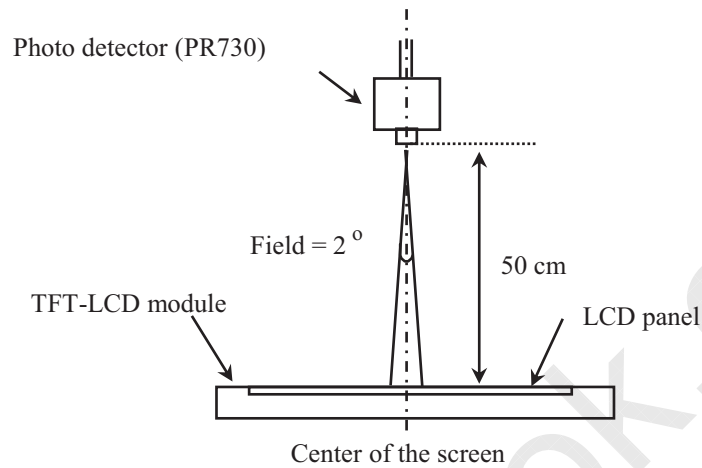
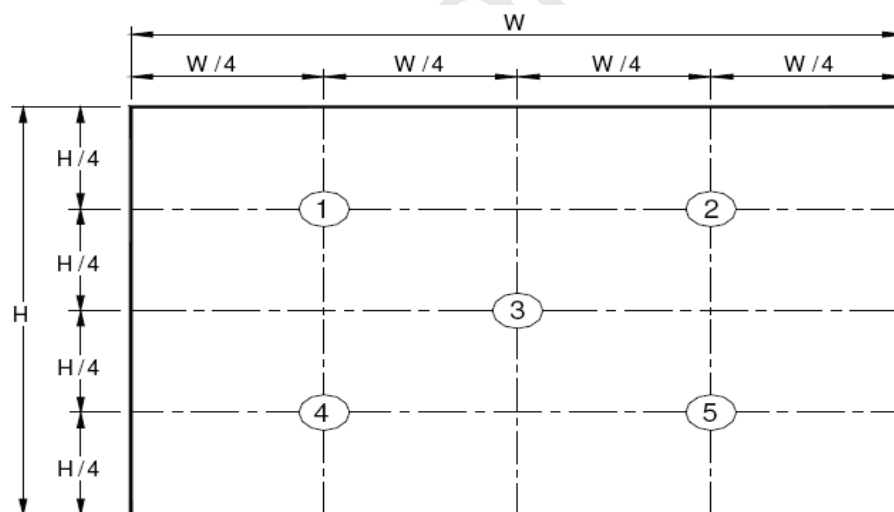
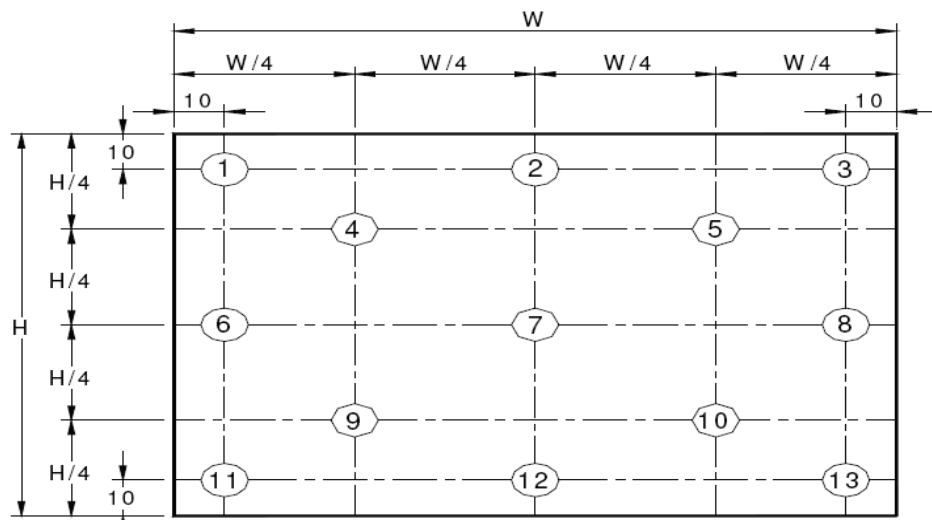

Figure 7. Measurement Set Up
Figure 8. White Luminance and Uniformity Measurement Locations (5 points)
Figure 9. Uniformity Measurement Locations (13 points)
<p>Notes :</p> <ol style="list-style-type: none"><li>Viewing angle is the angle at which the contrast ratio is greater than 10. The viewing angles are determined for the horizontal or 3, 9 o'clock direction and the vertical or 6, 12 o'clock direction with respect to the optical axis which is normal to the LCD surface (see Figure 7).</li><li>Contrast measurements shall be made at viewing angle of <math>\Theta = 0</math> and at the center of the LCD surface. Luminance shall be measured with all pixels in the view field set first to white, then to the dark (black) state . (see Figure 7) Luminance Contrast Ratio (CR) is defined mathematically.<math display="block">CR = \frac{\text{Luminance when displaying a white raster}}{\text{Luminance when displaying a black raster}}</math></li><li>Center Luminance of white is defined as luminance values of 5 point average across the LCD surface. Luminance shall be measured with all pixels in the view field set first to white. This measurement shall be taken at the locations shown in Figure 8 for a total of the measurements per display.</li><li>The White luminance uniformity on LCD surface is then expressed as : <math>\Delta Y = \text{Minimum Luminance of 5(or 13) points} / \text{Maximum Luminance of 5(or 13) points.}</math>(see Figure 8 and Figure 9).</li><li>The color chromaticity coordinates specified in Table 5 shall be calculated from the spectral data measured with all pixels first in red, green, blue and white. Measurements shall be made at the center of the panel.</li><li>The electro-optical response time measurements shall be made as Figure 10 by switching the “data” input signal ON and OFF. The times needed for the luminance to change from 10% to 90% is <math>T_r</math>, and 90% to 10% is <math>T_f</math>.</li><li>Cross-Talk of one area of the LCD surface by another shall be measured by comparing the luminance (<math>Y_A</math>) of a 25mm diameter area, with all display pixels set to a gray level, to the luminance (<math>Y_B</math>) of that same area when any adjacent area is driven dark. (See Figure 11).</li></ol>
Center Luminance of white is defined as luminance values of center 5 points across the LCD surface. Luminance shall be measured with all pixels in the view field set first to white. This measurement shall be taken at the locations shown in Figure 7 for a total of the measurements per display.
The White luminance uniformity on LCD surface is then expressed as :  $\Delta Y5$  = Minimum Luminance of five points / Maximum Luminance of five points (see Figure 8) ,  $\Delta Y13$  = Minimum Luminance of 13 points /Maximum Luminance of 13 points (see Figure 9).